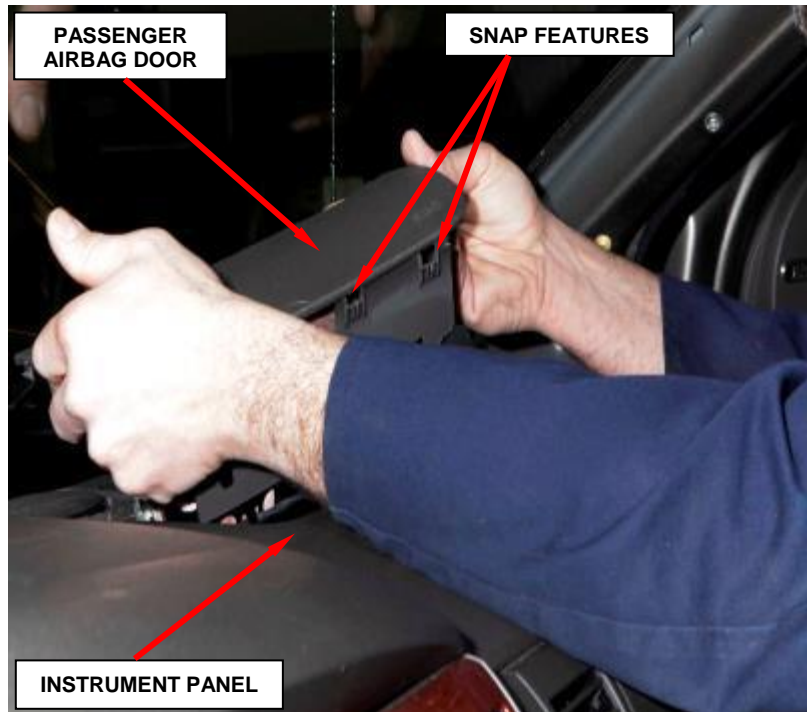

Figure 14 – Passenger Airbag Door
5. Using a trim stick or another suitable wide flat bladed tool, gently pry the forward and side edges of the passenger airbag door away from the top of the instrument panel far enough to disengage the snap features on the airbag door from the receptacles in the instrument panel top pad (Figure 14).